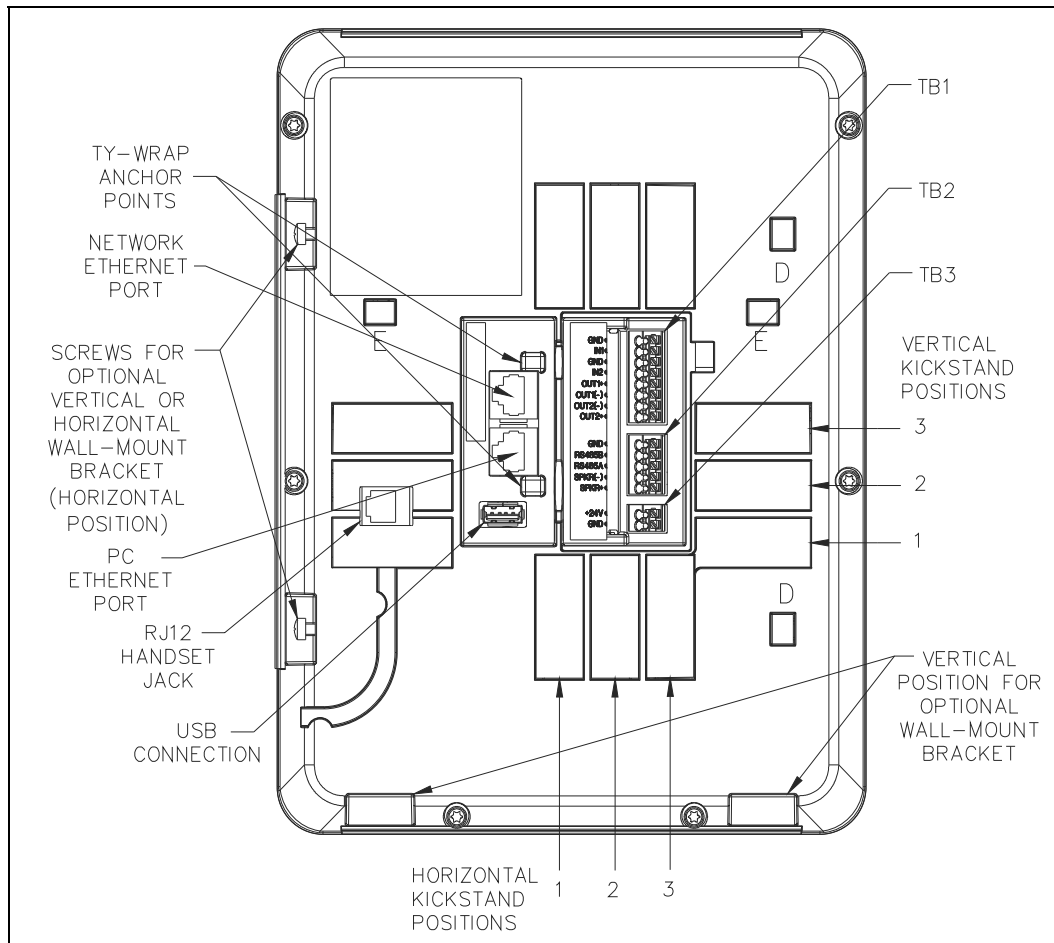

Figure 4. HUBBCOM APLite—Rear View
The kickstand provides four positions in both orientations to suit the situation where it is used (see Table 1 and Figure 4).
2. Insert one side of the kickstand, with the flange properly oriented, into the desired position in the rear cutout (see Figure 4).
5. Remove the two #8 × ½-inch mounting bracket screws from the bottom of the rear panel and set aside (see Figure 4).
7. With the proper orientation for the unit's configuration, angle the unit to hook it onto the top flange brackets (D-D or E-E, see Figure 4), then rotate and slide it downward until it rests on the mounting bracket.
- Remove the two #8 × 1/2-inch mounting bracket screws from the bottom of the rear panel and set aside (see Figure 4).
- With the proper orientation for the unit's configuration, angle the unit to hook it onto the top flange brackets (D-D or E-E, see Figure 4), then rotate and slide it downward until it rests on the mounting bracket.
HUBBCOM APLites have dual Ethernet ports. Use the RJ45 jack furthest from the USB port to connect to the Ethernet network. The RJ45 jack closest to the USB port can be used to connect a PC (see Figure 4).
2. (Optional) Plug an Ethernet cable from a PC into the remaining RJ45 jack (see Figure 4).